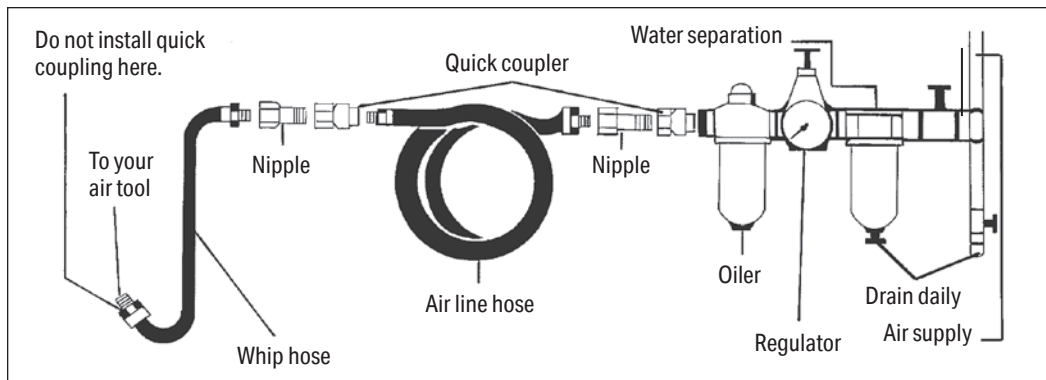

Fig. 1
6.1 Preparing the Air Supply for Use (Fig.1)